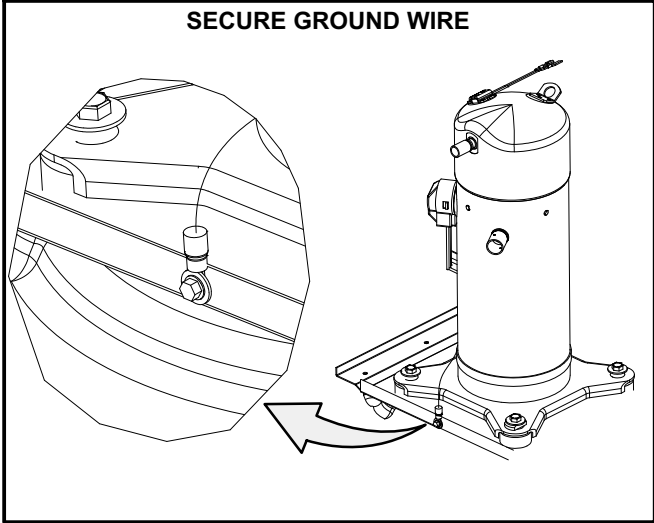

FIGURE 4
- 6- Secure crankcase heater ground wires using screw and washer provided in kit. See figure 4.